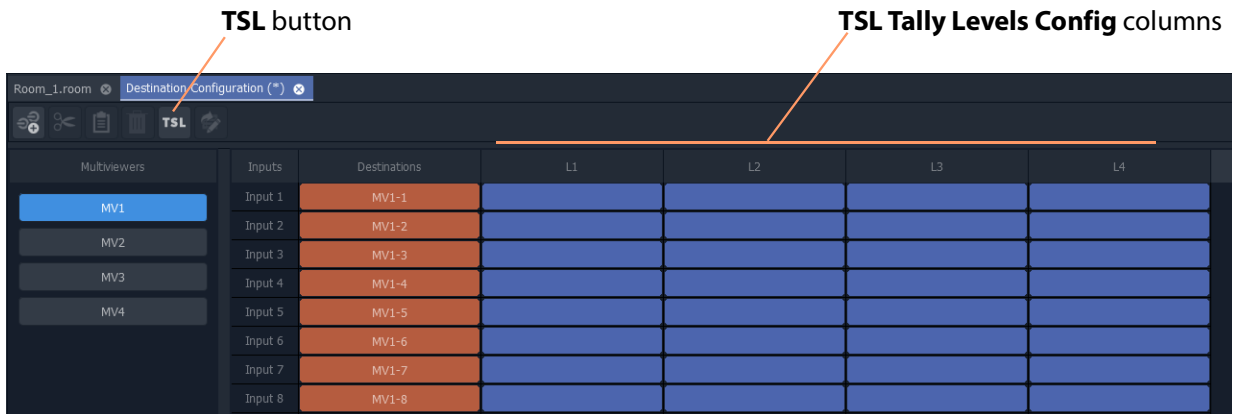

Fig. 16-2: Destination Configuration Tab - TSL Tally Levels Config Columns
- 2 Click on the **Configure Mapping** icon in the **Room Editor** tool bar. A **Destination Configuration** tab is opened. See Figure 16-2.